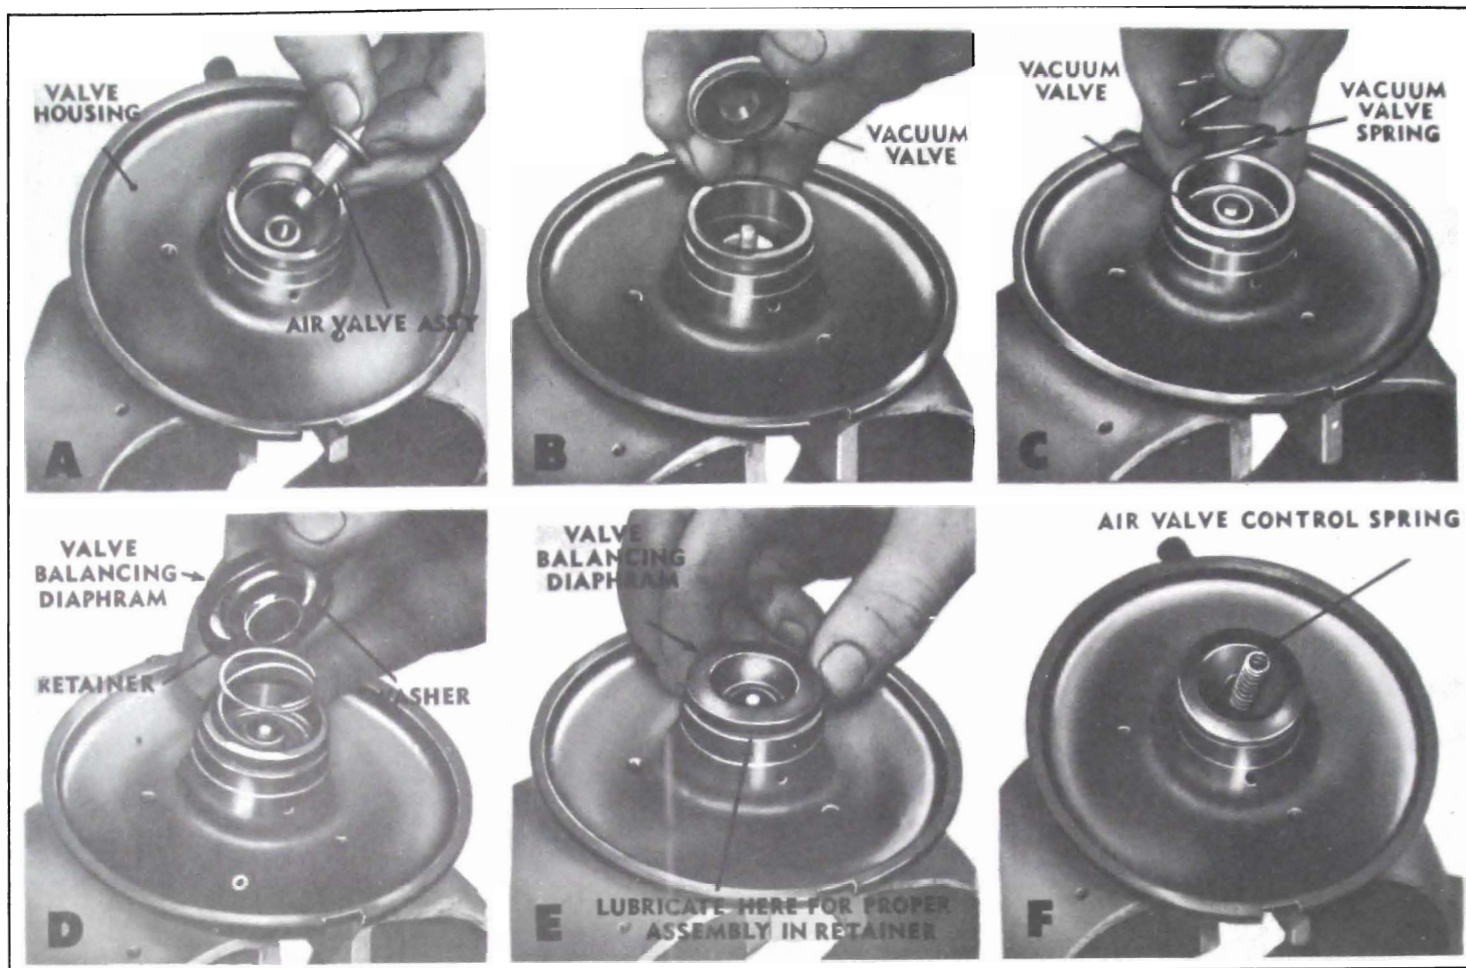

Figure 9-30—Valve Control Assembly
assembly and air valve assembly from valve housing. See Figure 9-30, taking steps in order F to A.
2. Refer to Figure 9-30, and reassemble air and vacuum valve. Follow steps in order A to F. Install new air valve assembly, then new vacuum valve assembly. Install vacuum valve spring. Assemble washer into new valve balancing diaphragm, then assemble diaphragm retainer to new valve balancing diaphragm, with small diameter of retainer toward diaphragm, then install this assembly as shown, retainer first, being sure that diaphragm retainer is centered in vacuum valve spring, and that center bead in retainer is pressed down snugly and evenly over neck or hub of vacuum valve assembly. Wipe